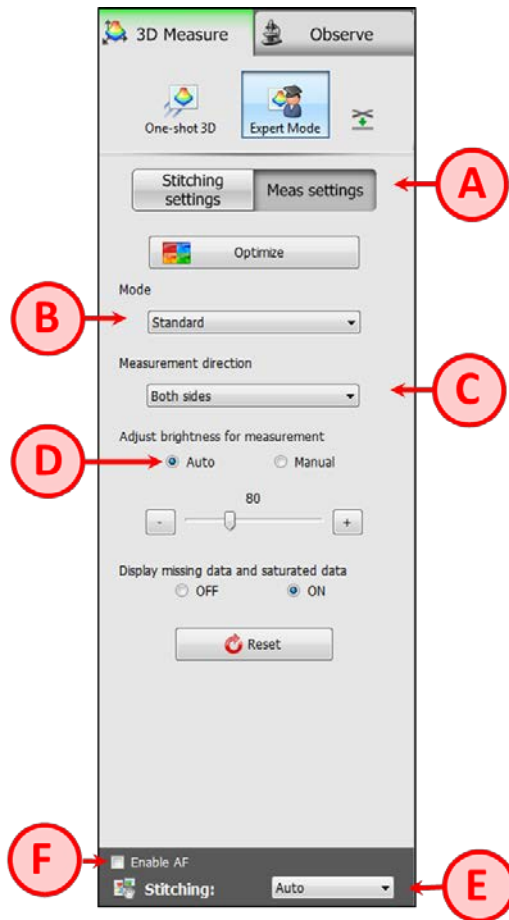

Figure 3 - Measurement Settings under 3D Measure Tab
- 1.5. Under the *Expert Mode* option of the *3D Measure* tab (Figure 3):
- 4.2. Under the *Expert Mode* option of the *3D Measure* tab (reference Figure 3):